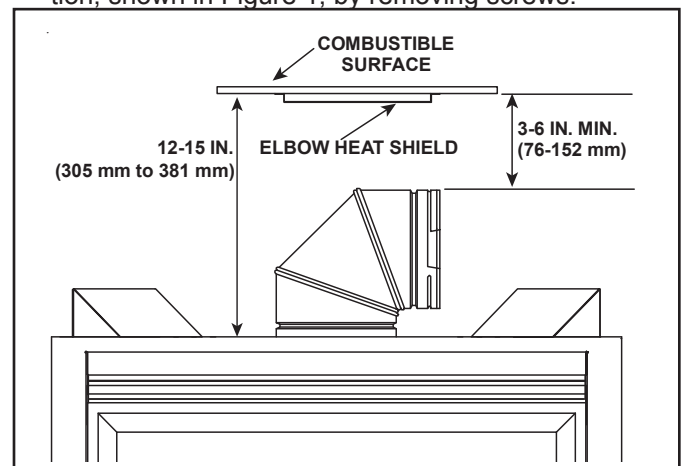

Figure 6.2 Elbow Heat Shield Installation Location
2. If the combustible materials are to be installed between 12 to 15 inches above the top of the appliance, the elbow heat shield is required. See Figure 6.2.
1. The elbow heat shield is not required if combustible materials, or combustible chases, are installed a minimum of 6 inches above the top of the elbow. See Figure 6.2.
2. If the combustible materials are to be installed between 3 inches and 6 inches above the top of the elbow, the elbow heat shield is required. See Figure 6.2.
2. Fasten the shield in place using the four pilot holes. The shield should be oriented such that the 13 1/8 inch dimension (longest dimension) is running in the same direction the elbow is pointing. The shield should be centered directly above the elbow, and positioned so that it creates a 1/2 inch airspace between the shield and the combustible surface. See Figure 6.2